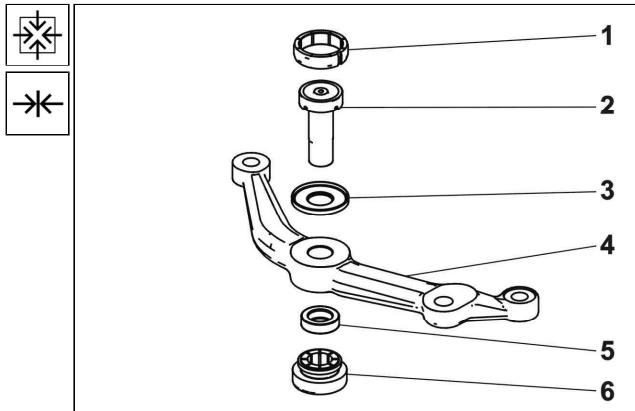

Fig. 10.61 Double steering arm - assembly
5. Withdraw the upper bearing **1** (See Fig. 10.61) and the lower bearing **6** from the pin **2**.